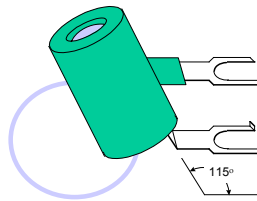

Figure 4-3
- d. Daylight controls (Figure 4-3) are photoresistors that change resistance with respect to light levels. As the light level decreases, the resistance of the daylight control increases. The photoresistor is used on the CG-181 to turn the light off in the daytime. A flasher **without** a daylight control will operate continuously, 24 hours a day. Daylight controls are available in three types from ELC Baltimore: